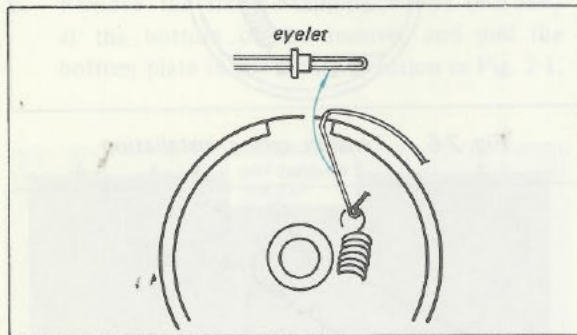

Fig. 2-8. Finishing dial cord stringing
5. Pass the doubled end of the cord through the eyelet, then hook it to the spring as shown in Fig. 2-8.